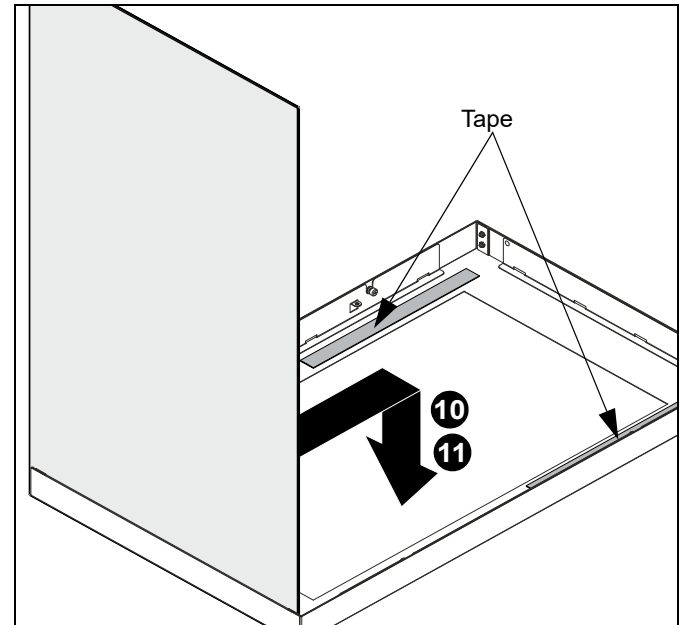

Figure 5
10. Lay the glass down to test the fit within the swing door, and make sure that the area at the top matches with the location of the tape (C). (See Figure 5)